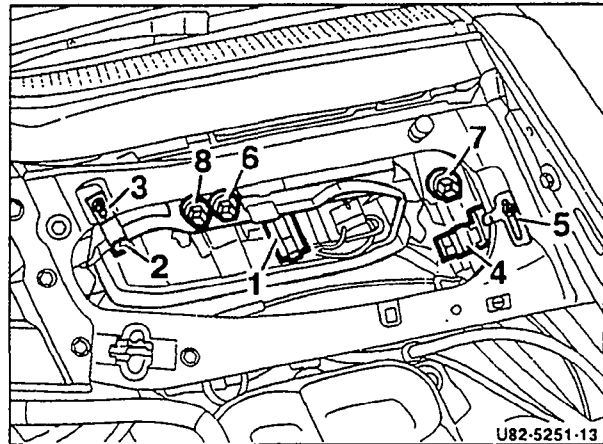

Figure 1 Early M.Y. 1992 Model 140
Turn adjustment screw (6) until air bubble in the level (1) is centered on the "0" mark (Figure 1).
Turn adjustment screw (7) so that the pointer (5) for the scale (4) is aligned with the same mark as the other pointer (3) and scale (2, Figure 1).